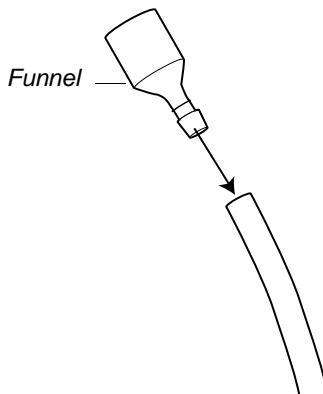

Figure 2-23. *Fitting a funnel to a tubing*
- 4 Cut the tubing to appropriate lengths. Fit the funnels to the tubings, see Figure 2-23.